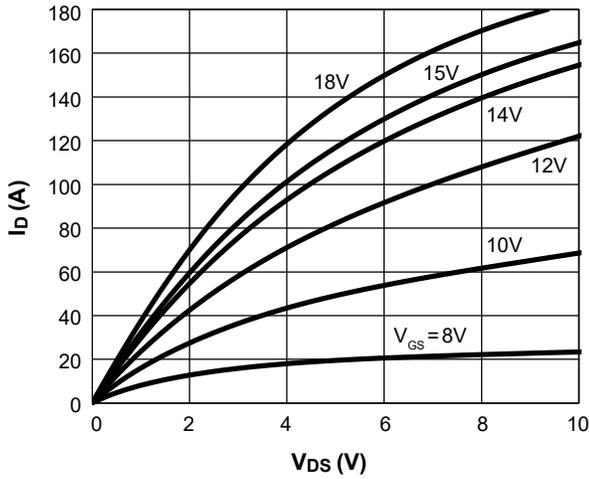

Figure 1. On-Region Characteristics  $T_J = 25^\circ\text{C}$
- I. The static characteristics in Figures 1 to 8 are obtained using <300ms pulses, duty cycle 0.5% max.